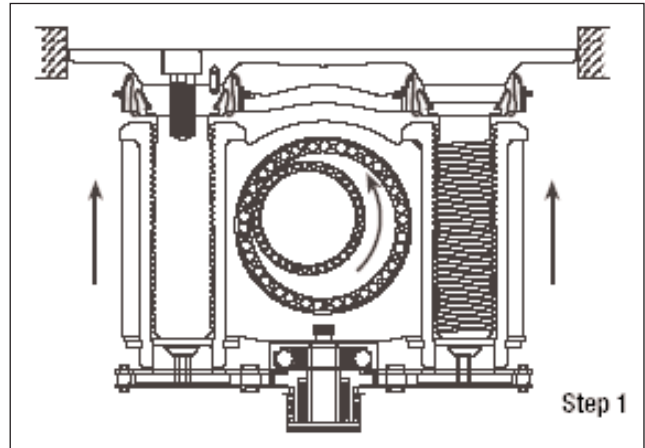

Fig 1.6
- b) Block lifts and begins to move forward, carrying the adjuster sleeves and pistons with it (Fig. 1.6).